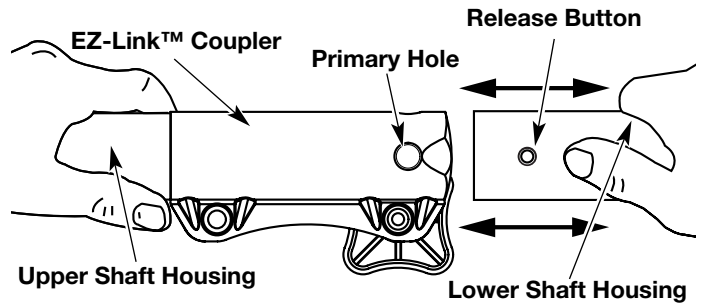

Fig. 7
3. While firmly holding the upper shaft housing, pull the cutting attachment or add-on straight out of the EZ-Link™ coupler (Fig. 7).
2. While firmly holding the add-on, push it straight into the EZ-Link™ coupler (Fig. 7).
<p>CAUTION: Lock the release button in the primary hole (Fig. 7) and securely tighten the knob before operating this unit.</p>